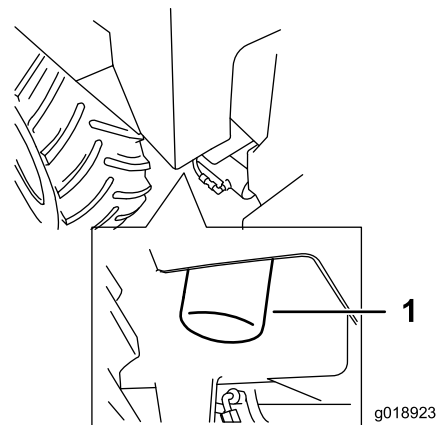

Figure 40
4. Turn the hydraulic-fluid filter counterclockwise, remove and discard the filter (Figure 40).